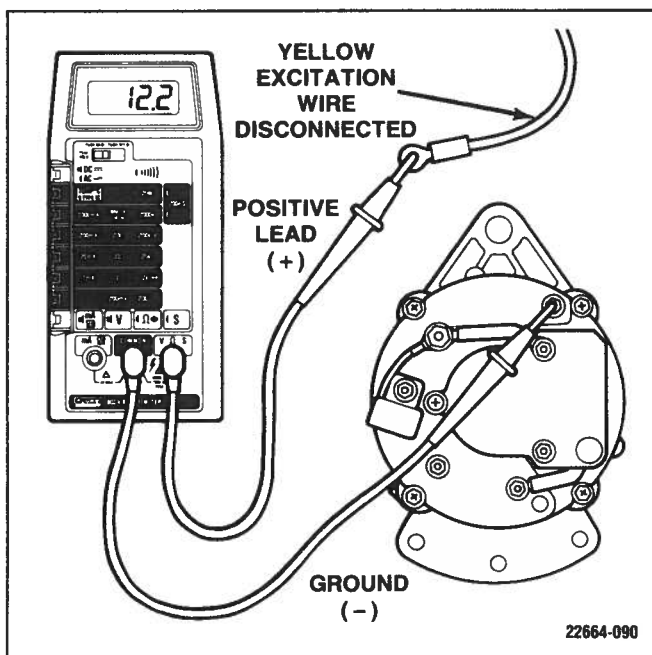

Figure 6-116. Testing Exciter Lead
5. **If no reading is obtained**, an opening exists in alternator-excitation lead or in excitation circuit of regulator. Disconnect yellow lead from regulator. Connect positive voltmeter lead to yellow lead and negative voltmeter lead to ground. If voltmeter now indicates approximate battery voltage, voltage regulator is defective and must be replaced. If no voltage is indicated, check excitation circuit for loose or dirty connections or damaged wiring. (Figure 6-116)